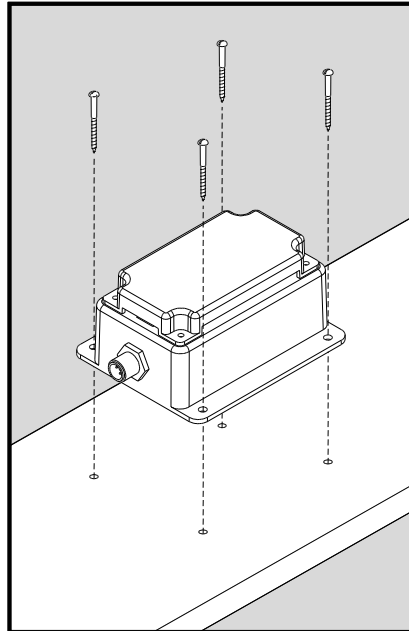

Figure 6 – Mounting the FFM100
Attach the FFM100 securely to the vessel using the included stainless steel mounting screws or other fasteners as shown in Figure 6 below. Do not use threadlocking compounds containing methacrylate ester, such as Loctite Red (271), as they will cause stress cracking of the plastic enclosure.